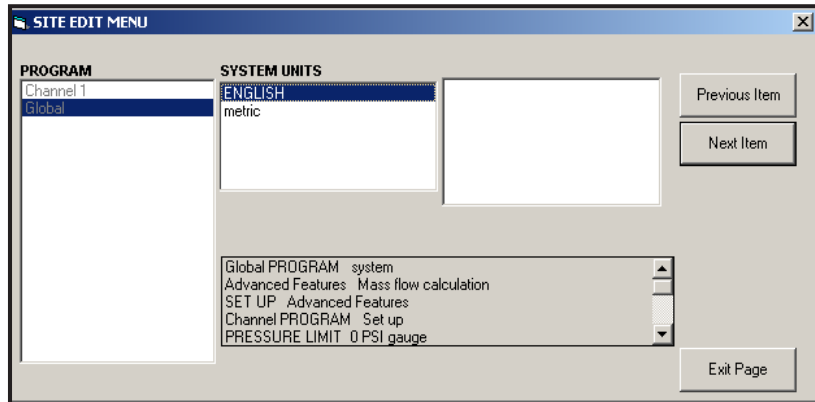

Figure 45: System Option in the Global Menu
2. Highlight and double-click on the *System* option in the center pane. The window now appears similar to Figure 45.